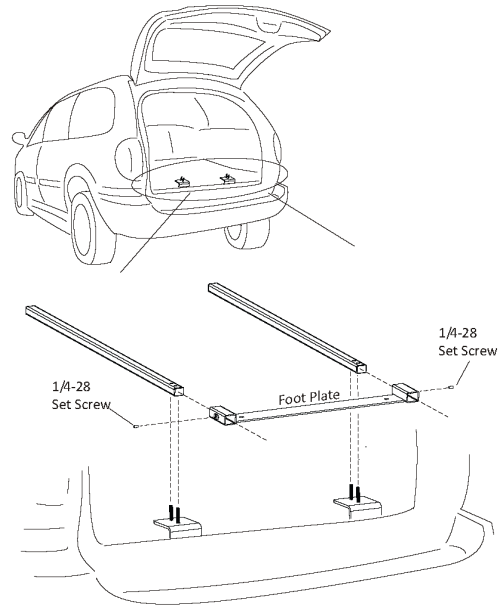

Figure 4-31
- Add 1/4-28 set screws to each side of the foot plate. Leave them loose, then take each 1" square tube and slide the hole end through the foot plate. *See Figure 4-31.*